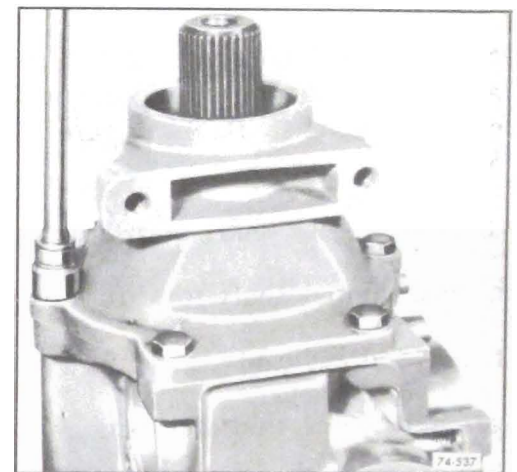

Figure 76-537
2. Remove extension housing to case attaching bolts. See Figure 76-537.